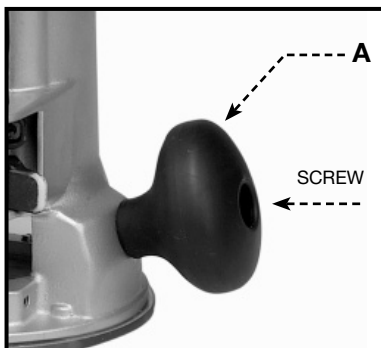

Fig. 2
1. Use a 5/16" hex wrench to loosen the screw located in the handle (A) Fig. 2. Remove the handle (A) Fig. 2 from the router base. Place the handle and screw in a safe place for use later if needed.